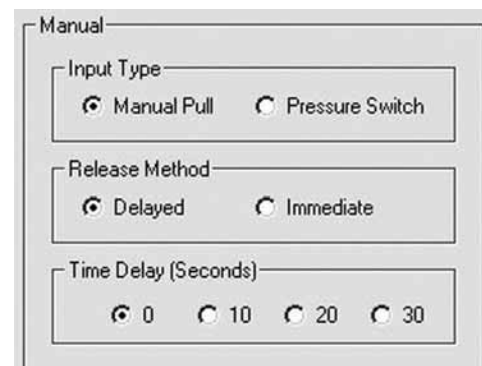

FIGURE 47
5. **Manual - Input Programming:** The Manual Input circuit may be programmed for either electric Manual Pull or Pressure Switch feedback (see Figure 47).